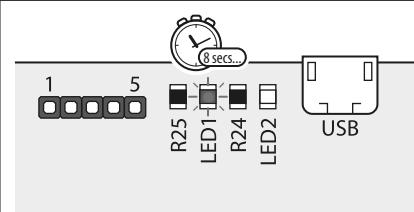

Fig. 43
3. Switch the power back **ON** to the GSM interface, initially the red LED (LED1) will switch **ON** for approximately 8 seconds or so. The red LED (LED1) will then start to flash, as shown in **Fig.43**.
7. The red LED (LED1) will then start to flash again for approximately 16 - 18 seconds to indicate that the GSM interface is resetting back to the factory default (**Fig.43**).